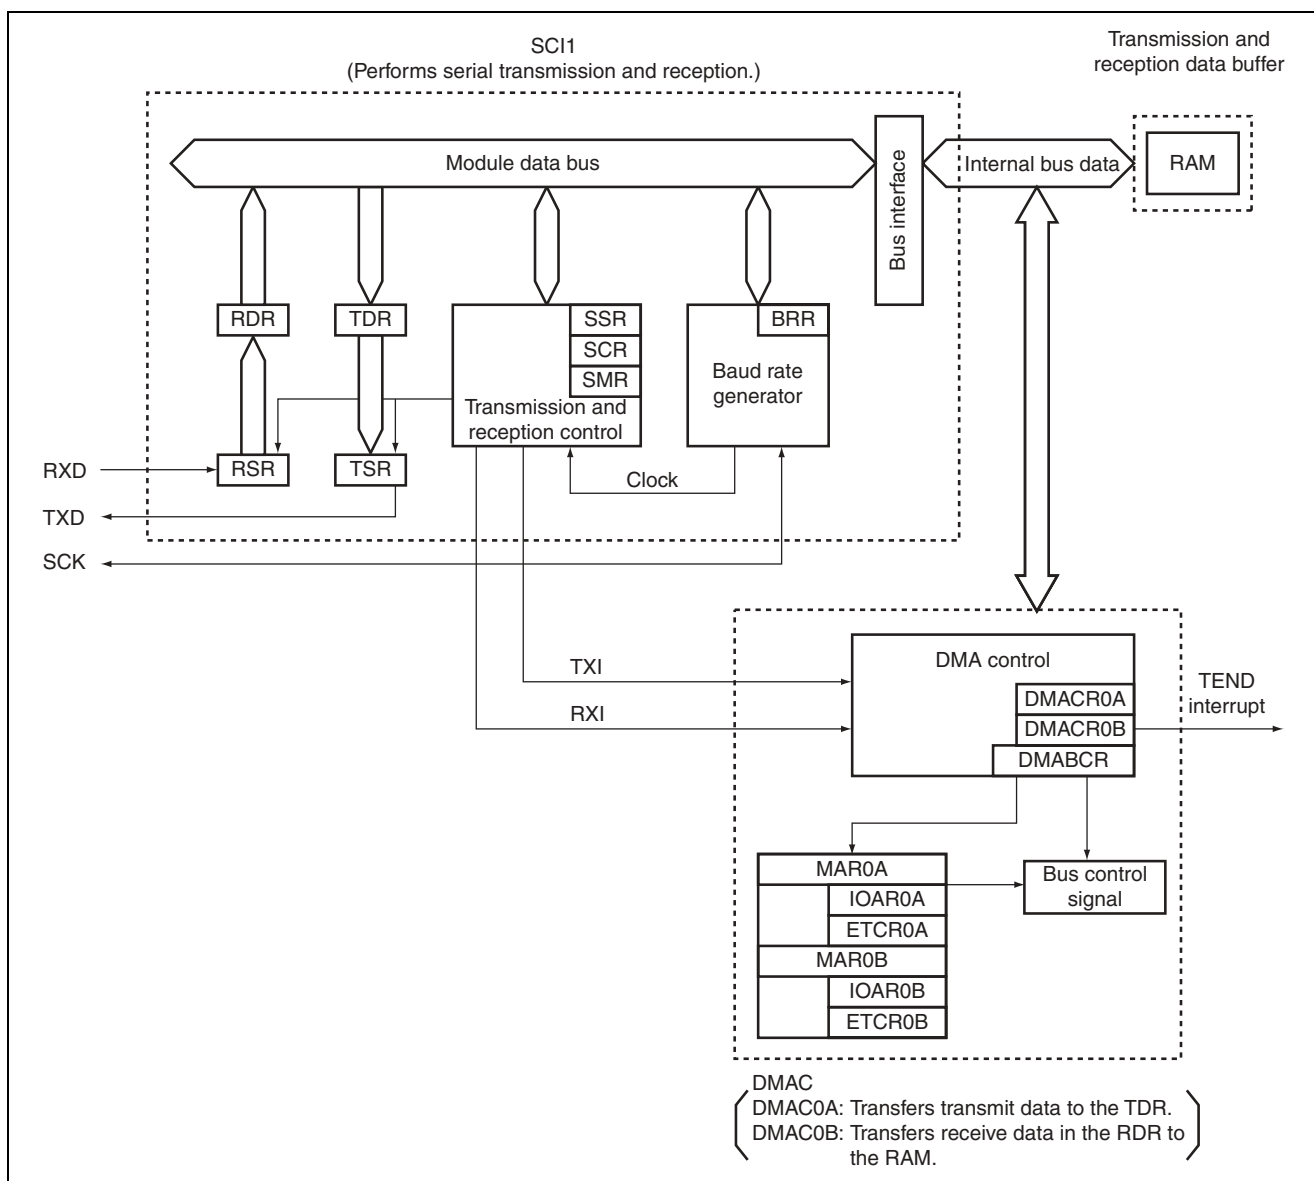

Figure 2 Block Diagram of Continuous Transmission and Reception
- The H8S/2215 internal functions to be used by this sample task are shown in figure 2. This sample task performs high-speed serial communication, using the DMAC0A, DMAC0B and SCI1 as shown in figure 2.